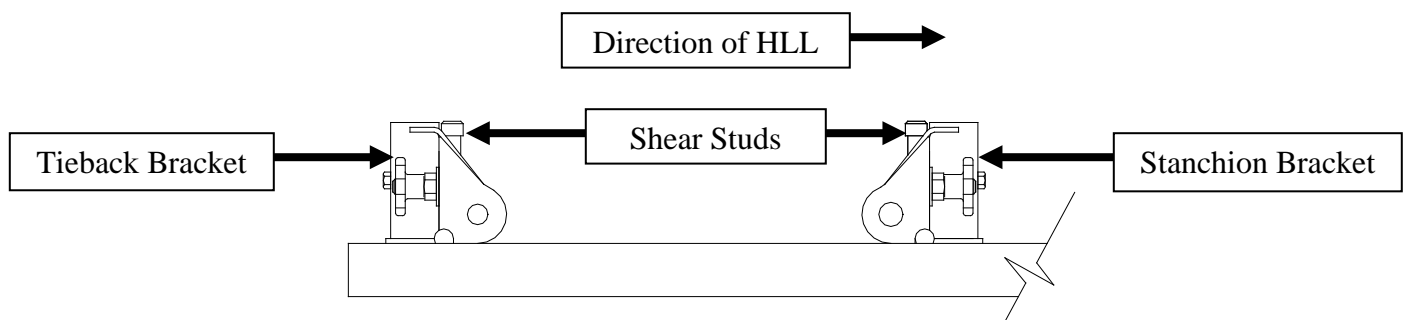

Fig. 3 Position of Brackets Relative to Shear Studs
2. The Base Brackets that will be used as tieback plates should be attached to studs that are located at the end of the beam where the lifeline is to be installed. Loosen both the handknob and the nut of the brackets’ j-bolt (depending on the size of the head of the shear stud, both the nut and handknob may have to be removed) and slide the bracket down the shear stud to rest against to top of the beam. Make sure that the holes where the tieback cables will attach are pointed towards the far end of the beam where the other end of the lifeline cable will be installed (see Fig. 3). Verify that the bracket is resting firmly against the top surface of the beam; there should be no gap present below the bottom edge of the bracket. Tighten the hand knobs fully to firmly press the bracket against the shear studs. Torque the nuts to a minimum of 100-ft-lb. The tieback bracket is now installed.